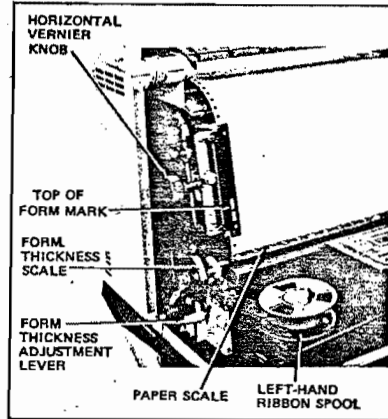
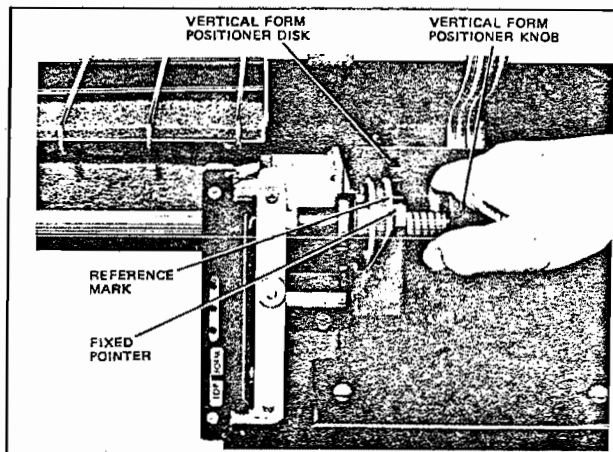

Figure 5
Figure 7
- b. Lift Forms Thickness Adjustment Lever (figure 5) to "Load" position (fully raised to move platen away from ribbon and hammer bank).
h. Use the Vertical Forms Positioner Knob (figure 7) to set the space for the first printing line opposite the TOP OF FORM mark on the left-hand tractor (figure 5).